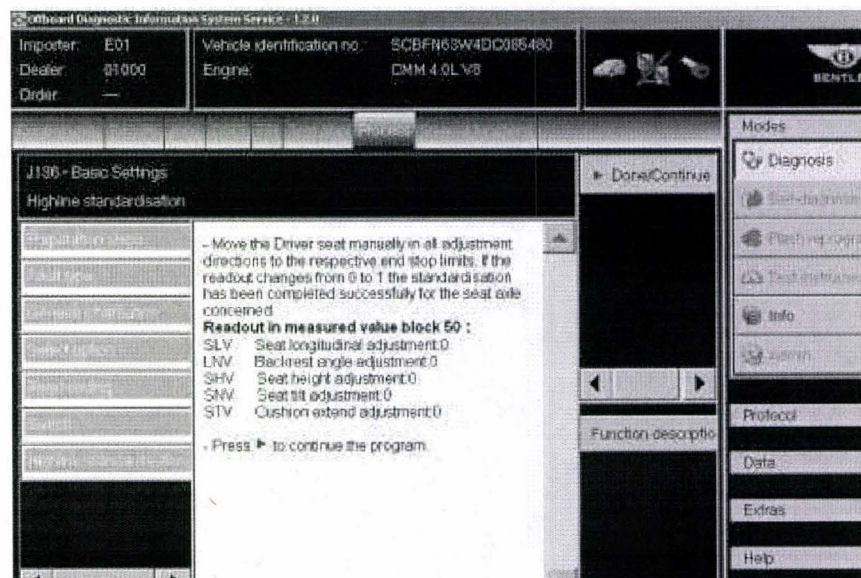

Figure 6
13. Follow the on screen requests to change each readout in measured value block 50 from 0 to 1. Note when performing LNV Backrest angle adjustment ensure there is sufficient clearance to enable full articulation (see Figure 6)